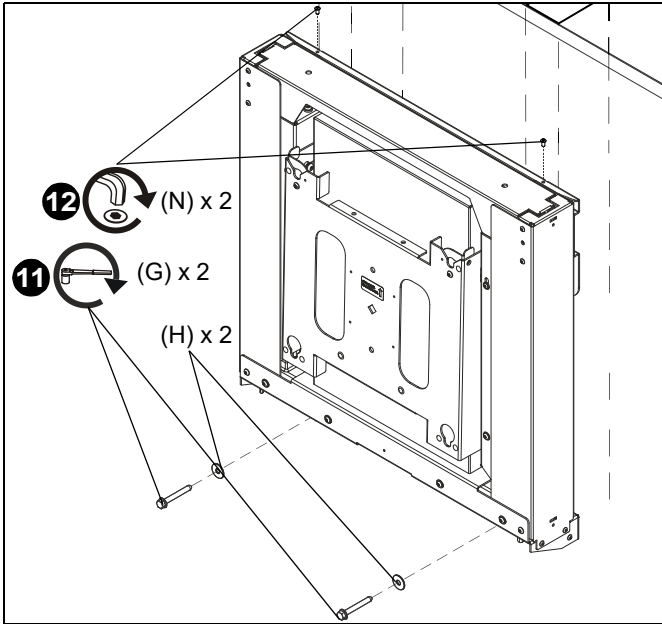

Figure 5
11. Install two 5/16 x 2 1/2" hex head cap screws (G) through two 5/16" washers (H), lower mounting holes on mount and into drilled holes on wall. (See Figure 5)
12. Use two #10-24 x 1/2" button head cap screws (N) and 1/8" hex key (R) to secure mount to wall. (See Figure 5)